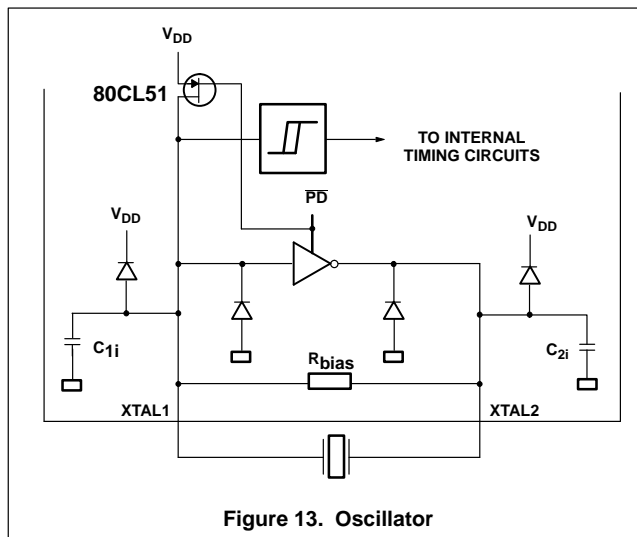
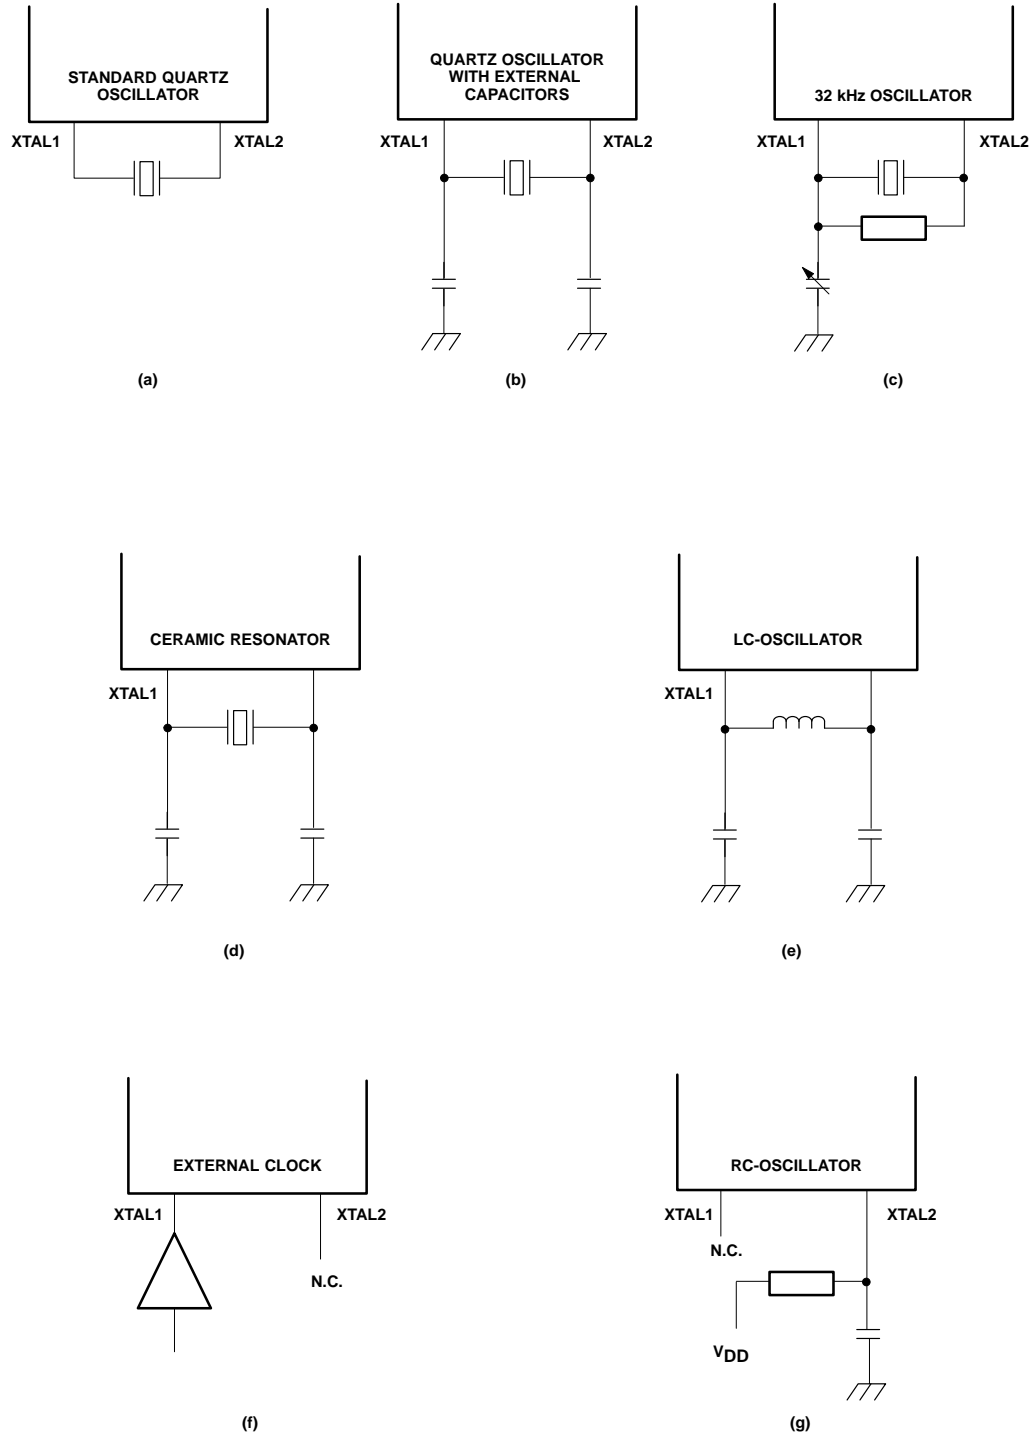

Figure 13. Oscillator
Figure 14. Alternative Oscillator Configurations
The on-chip circuitry of the 80CL51 is a single-stage inverting amplifier biased by an internal feedback resistor (Figure 13). For operation as standard quartz oscillator, no external components are needed except at 32 KHz. When using external capacitors, ceramic resonators, coils and RC networks to drive the oscillator, five different configurations are supported (see Figure 14 and oscillator options).
In the Power-down mode the oscillator is stopped XTAL1 is pulled HIGH. The oscillator inverter is switched off to ensure no current will flow regardless of the voltage at XTAL1. To drive the device with an external clock source, apply the external clock signal to XTAL1, and leave XTAL2 to float, as shown in Figure 14(f). There are no requirements on the duty cycle of the external clock, since the input to the internal clocking circuitry is split using a flip-flop.
### 1.7.1 Oscillator options (see Figure 14)
- Osc. 1: Figure 14(c): An option for 32 kHz clock applications with external trimmer for frequency adjustment. A 4.7 MΩ bias resistor is needed for use in parallel with the crystal.
- Osc. 2: Figure 14(e): An option for low-power, low-frequency operations using LC components.
- RC: Figure 14(g): An option for an RC oscillator.